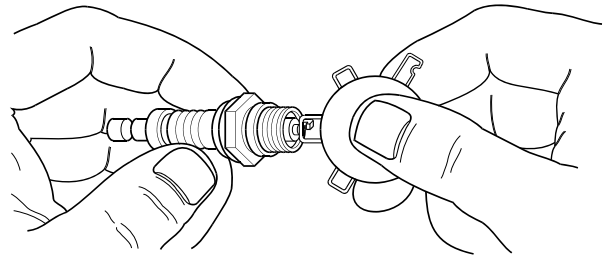

Figure 6-7. Spark Plug Gap
3. Check electrode gap with wire feeler gauge and reset spark plug gap to recommended gap if necessary (see Specifications) (Figure 6-7).